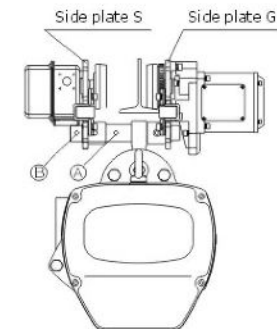

Fig 4.8
2. If it is not available with the first way, please do installation as the followings: (See Fig.4.8)